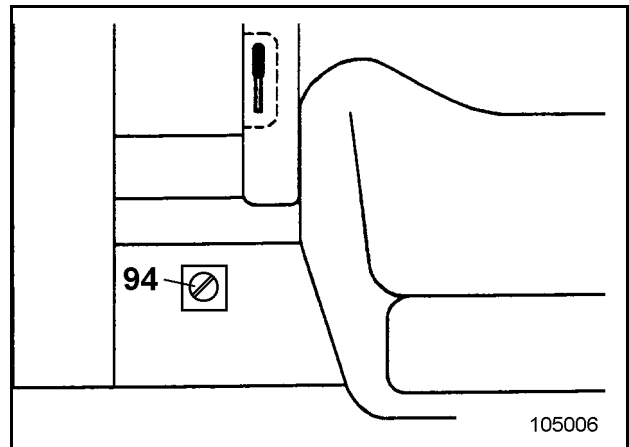

Fig. 6
- Turn knob (94, Fig. 6) to maximum heating performance.